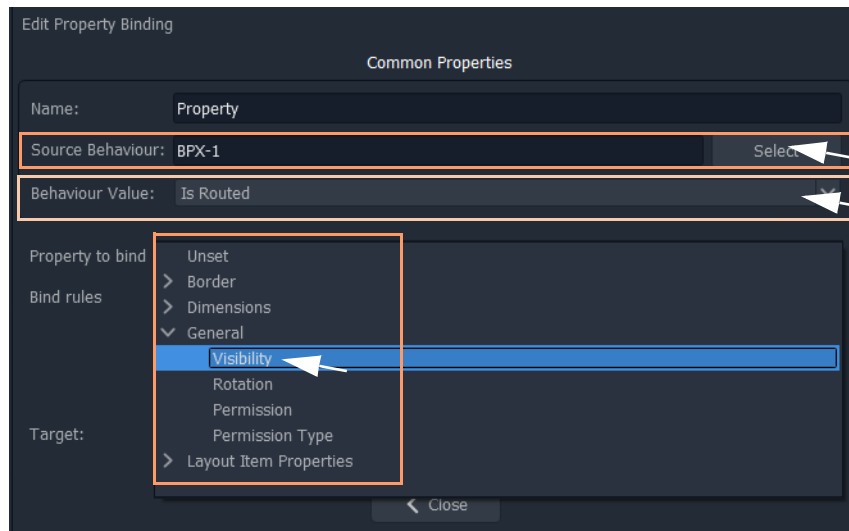

Fig. 6-62: Added Property Binding
- 6 Change the following **Property** Binding property values: (See Figure 6-62.)